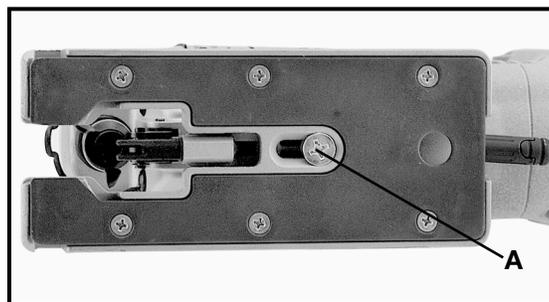

Fig. 9
**NOTE:** When using the anti-splinter insert, the base should be set to the forward most position (Fig. 9).
To install the plastic sub-base, remove the six screws (Fig. 9) from the bottom of the base, remove the metal sub-base, place the plastic sub-base on the saw, and reinstall the six screws. Be sure to save the metal sub-base for reuse.
The base is set at its forward most position at the factory. The base can be adjusted to the rear for making flush cuts around walls and other similar areas. To move the base forward or backward, turn the saw on its side, loosen screw (A), Fig. 9, move the base to the desired position and retighten the screw.
**NOTE:** When making bevel cuts, the base should be set to the forward most position (Fig. 9).